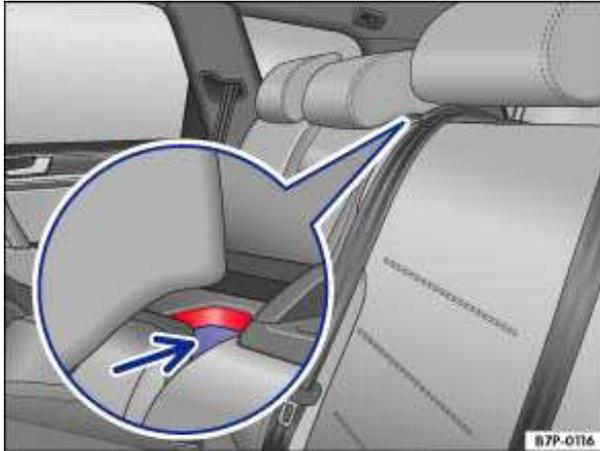

Fig. 102 In the rear backrest: Luggage compartment pass-through opening.
- Fold the middle part of the rear seat backrest (pass-through) back up (towards the rear) until it locks in to place. The red mark on the release button should no longer be visible ⇒ fig. 102.